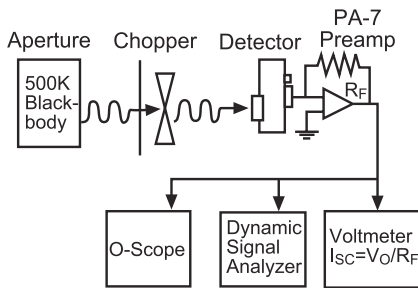

Fig 3: Detector Test Setup
All Teledyne Judson detectors undergo stringent quality control testing before shipment. The test setup of Figure 3 is used to check J10D series detectors for responsivity (R) and detectivity (D*).
Defined as the current produced by a detector in response to the radiant power on the detector (amps/watt). For the test setup of Figure 3, R_{BB} is equal to $V_{out} / (H_{BB} A_D \text{Gain})$ where H_{BB} is the blackbody irradiance in watts/cm², A_D is the area of the detector in cm², V_{out} is the rms signal voltage at the output of the preamplifier in volts, and Gain is the gain of the preamplifier in volts/amp.
Further testing can be done if problems are suspected or if the user wishes to verify the test data supplied. Place the detector in view of a modulated source of known irradiation, ideally a 500°K blackbody. Assemble the circuitry shown in Figure 3. Recommended preamps are Teledyne Judson models PA-7 or PA-9. Turn power on only after all connections have been made. Measure the signal to compute responsivity as described above. Measure the noise to compute D^* . (Note that noise due to the user preamp may differ from noise due to the factory test set preamp.)